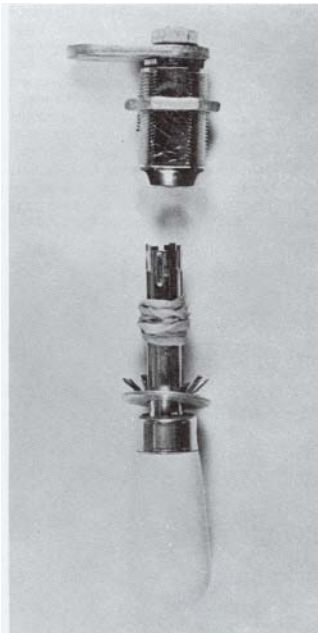

fig 16
**Picks For Tubular Locks** - The typical tubular lock has 7 pins located radially around a center post. This is considered to be a high security lock and is usually found in laundromat equipment, coin changers and vending machines. The picture in Figure 16 shows a commercially available pick tool for this type of lock. This tool departs from the techniques